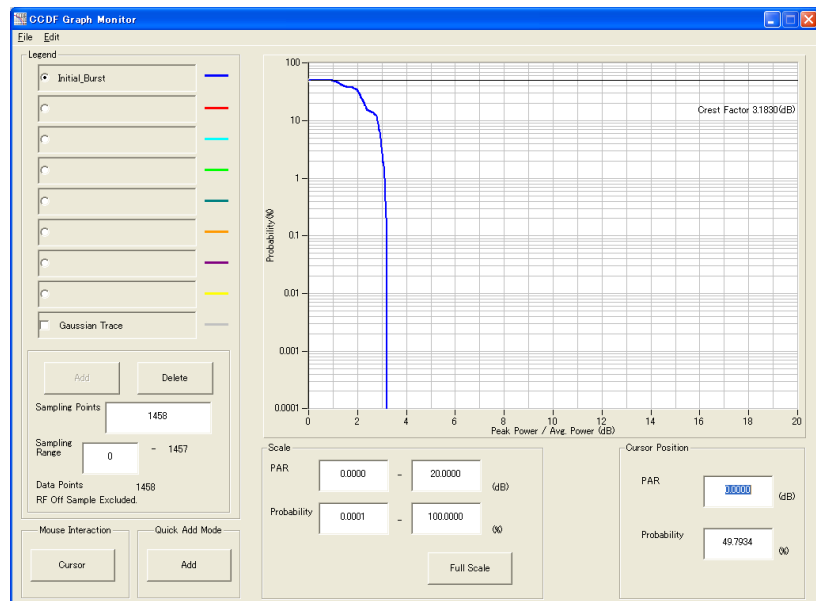

Figure 3.1.7-1 CCDF graph screen
2. Select **[CCDF]** from the **[Simulation]** menu or click the  tool button. The CCDF graph screen shown in Figure 3.1.7-1 is displayed with the trace of the generated waveform pattern.